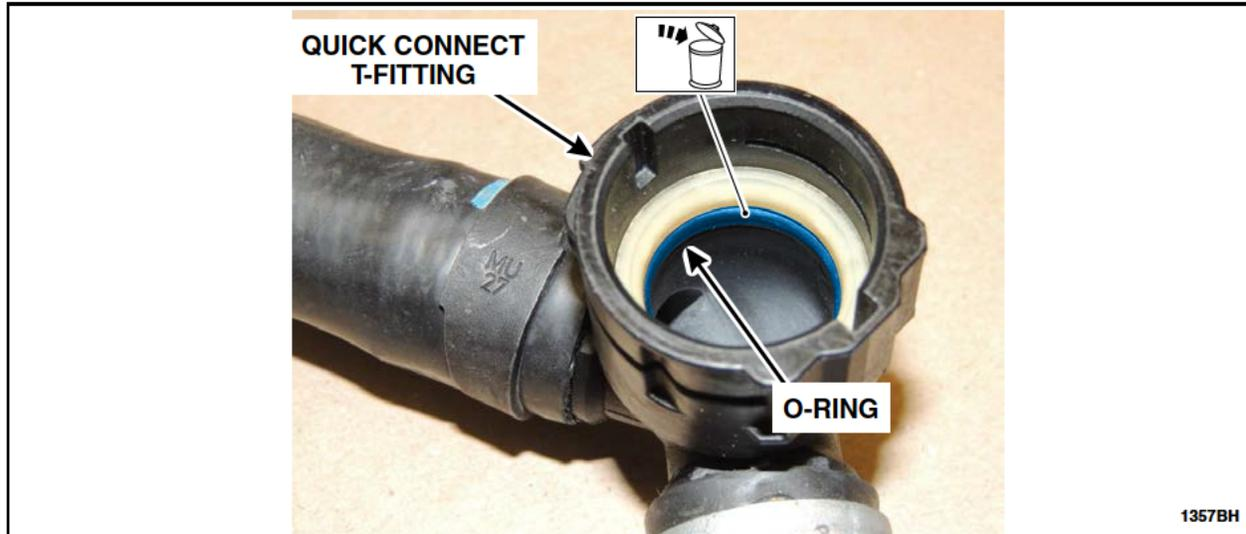

FIGURE 15
7. Remove and discard the o-ring inside the quick connect T-fitting. See Figure 15.
9. Lubricate the new o-ring with coolant and install it into the quick connect T-fitting. See Figure 15.